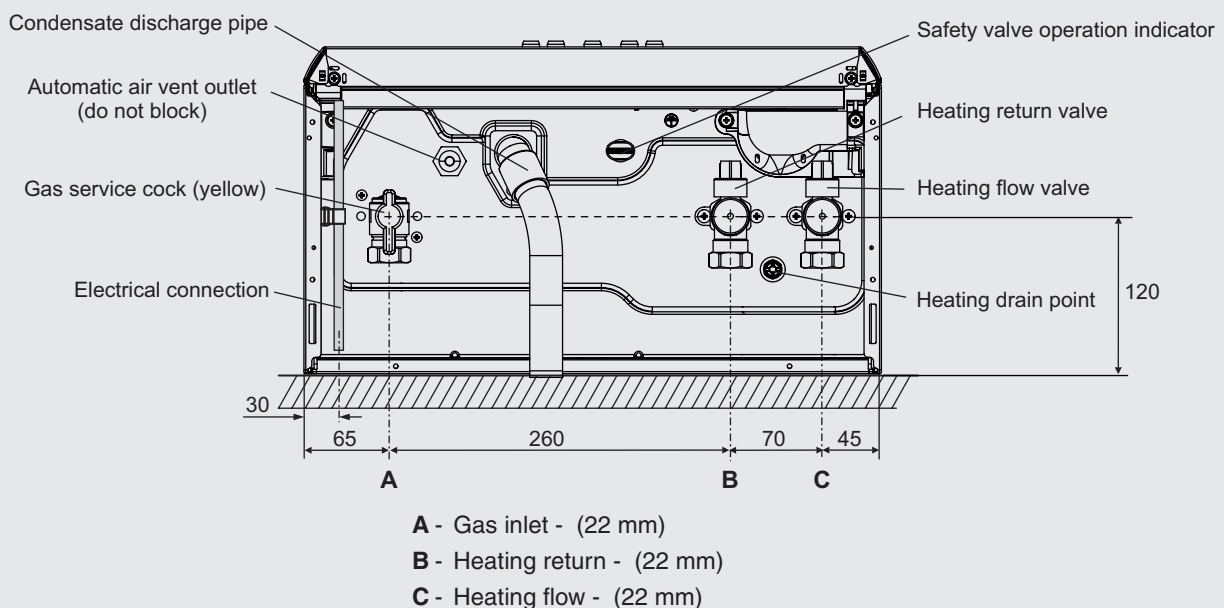

Fig. 5.4
#### 5.5 CONNECT THE PIPEWORK - Fig. 5.4
2. Fit the valves to the boiler connections as shown in Fig. 5.4, using the gaskets supplied.
4. Connect the flexible condensate pipe to the rubber connector as shown in Fig. 5.4. Using the adaptor supplied, connect the flexible pipe to the condensate drain. Ensure that the condensate discharge pipe is as required in Section 4.9.